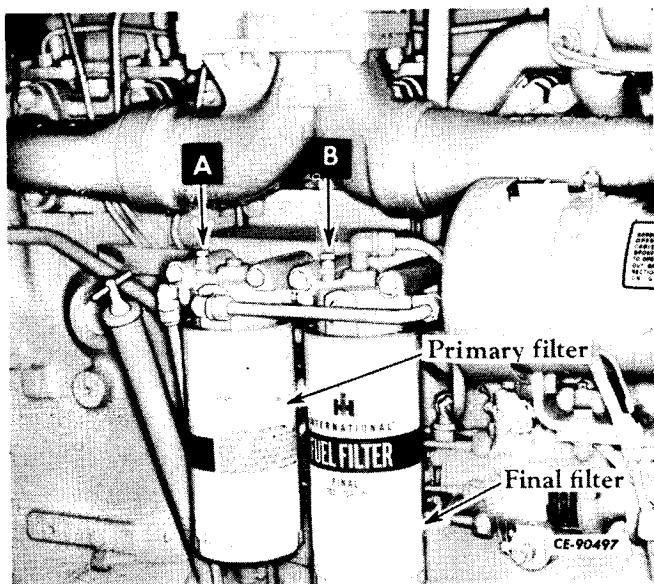

Figure 2-56
2. Open the valve (A, Fig. 2-56) on the primary fuel filter header. When fuel flows out in a solid stream free of bubbles, close the valve.
3. Open the valve (B) on the final fuel filter header. When fuel flows out in a solid stream free of bubbles, close the valve.